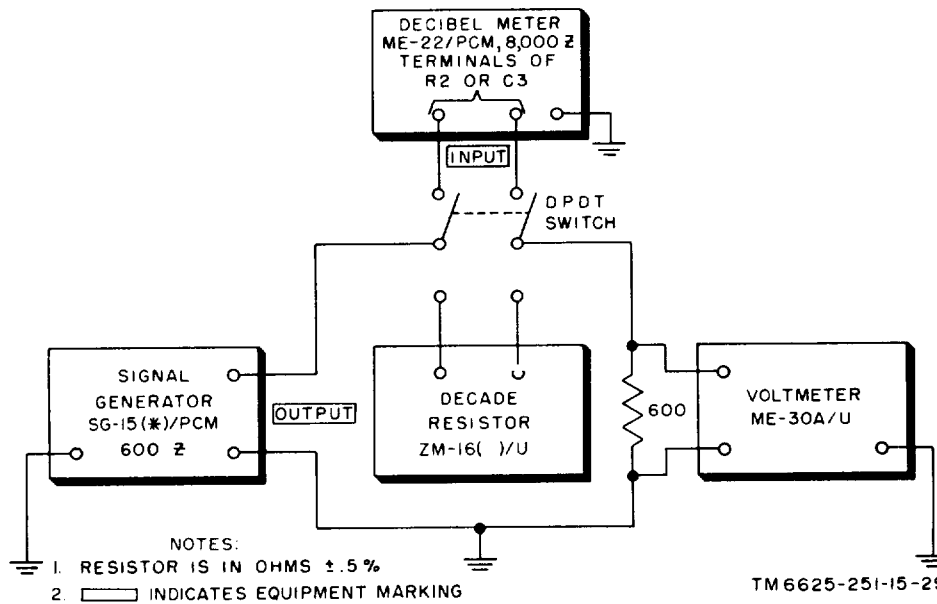

Figure 7-9. Test circuit for selecting resistor R2 and capacitor C3, Decibel Meter ME-22/PCM.
- (1) Connect the test equipment to the decibel meter as shown in the test circuit (fig. 7-9).
- (2) On the decibel meter, set the INPUT IMPEDANCE switch to BRIDGING.
- (3) Set Decade Resistor ZM-16(*)/U to 8,000 ohms.
- (4) Set the double-pole, double-throw switch to connect the decade resistor into the circuit.
- (5) Set the frequency of Signal Generator SG-15(*)/PCM to 1,000 cps and adjust the output power until Voltmeter ME-30A/U reads .250 volt.
- (6) Set the switch to connect the decibel meter into the circuit.
- (7) Select a resistor between 47K and 100K; starting with the lowest value, connect the resistors, one at a time, across the connections S or R2. Voltmeter ME-30A/U should read .250 volt. The resistor that causes a reading nearest .250 volt is the correct resistor R2.
- (1) Use the test circuit shown in figure 7-9 to select capacitor C3.
- (2) Set the INPUT IMPEDANCE switch of the decibel meter to BRIDGING.
- (5) Set the frequency of Signal Generator SG-15(*)/PCM to 35,000 cps. Adjust the output power until Voltmeter ME-30A/U reads .250 volt.
- (7) Temporarily connect a capacitor with a value between 22 and 100 μ F & d, across the connections S or capacitor C3 in the decibel meter until Voltmeter ME-30A/U reads .250 volt. Connect the capacitors one at a time starting with the lowest value. The